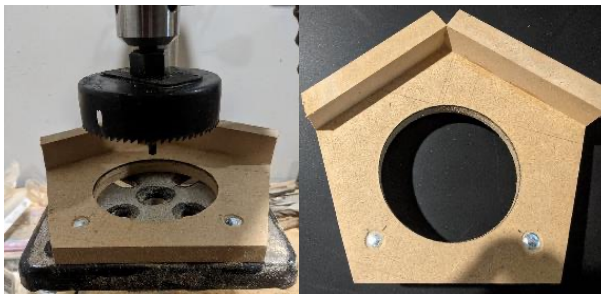

Figure 3.3 Speaker housing hole cutting jig
Step 4: Once the twelve pentagons have been cut out, you can use a drill press with a hole cutting bit to drill out the speaker driver housing hole. Figure 3.3 presents the hole drilling jig that was built to cut out the speaker driver housing holes (92 mm). The size of the hole may vary depending on the speaker drivers you select.